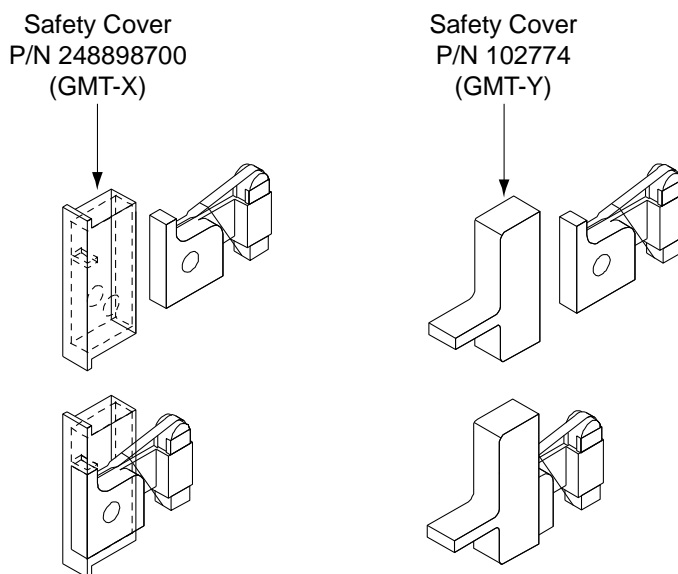

Figure 4-1
- 2) Safety fuse covers are provided for all Bussmann GMT type fuses installed in the system. These covers snap onto the fuses and provide protection from exposed electrical terminations when a fuse opens. Insure that the safety fuse cover is installed after replacing a fuse. Refer to Figure 4-1 for installation details.